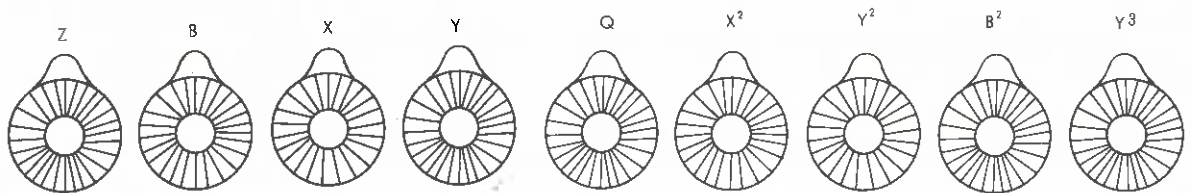

FIGURE 13 CONTROLS BEHIND HINGED PANEL
2.3.3 CONTROLS BEHIND HINGED PANEL (See fold-out figure 13)